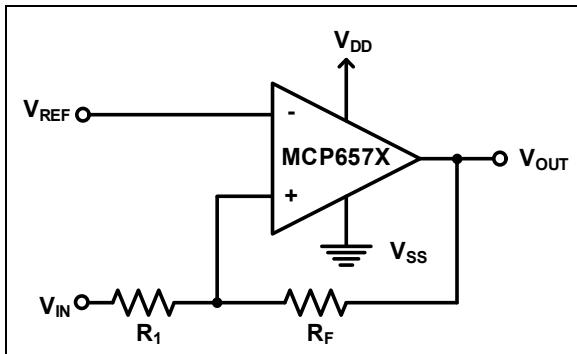
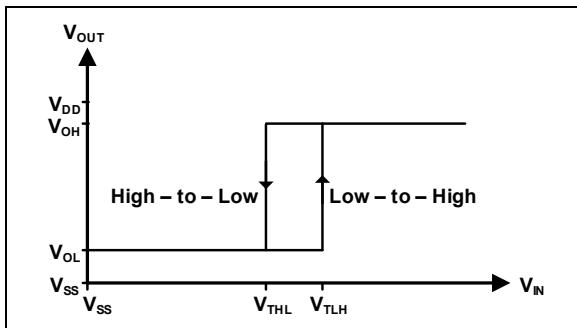

FIGURE 4-7: Noninverting Circuit with Hysteresis.
FIGURE 4-8: Hysteresis Diagram for Noninverting circuit.
Figure 4-7 shows a noninverting circuit for single supply applications using just two external resistors. The resulting hysteresis diagram is shown in Figure 4-8. The trip points ( $V_{TLH}$  and  $V_{THL}$ ) can be determined by Equation 4-1.
2. Noninverting Configuration (Figure 4-7)